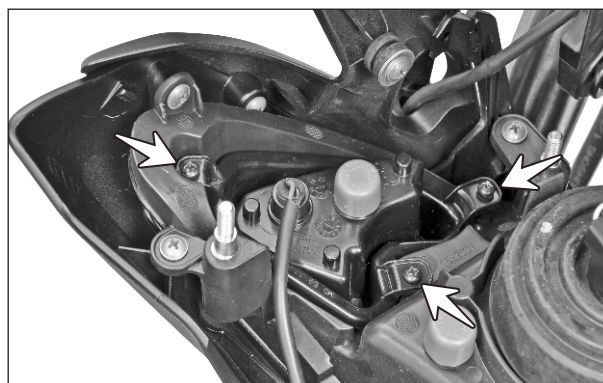

Fig. 5.54
- Remove the CRR flanged pan head tap screw (ST4.2x13 - 3 nos.) and takeout the position lamp assembly LH. (Fig. 5.54)